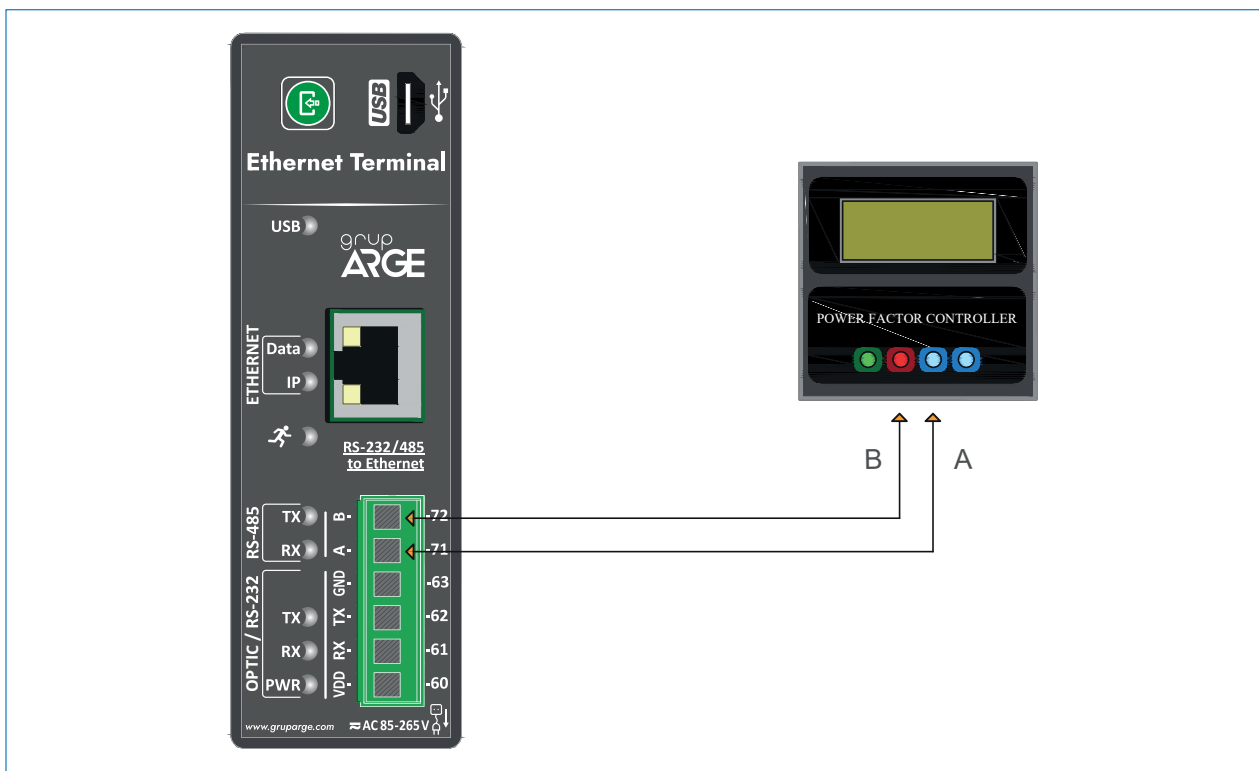

Figure 17
- d. Modbus Device (Relay, Analyzer, etc.) / RS-485: See Figure 17; 18